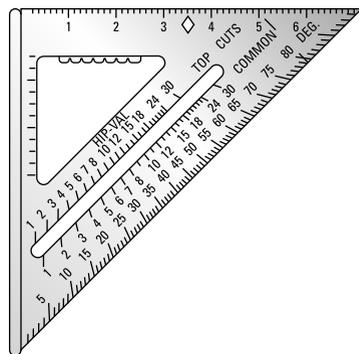

Figure 3-12:
- ✔ **Speed square:** Despite its seemingly-obvious name, a *speed square* (see Figure 3-12) is actually a *triangular* piece of metal or high-impact plastic. This deceptively simple-looking tool performs dozens of complicated carpentry functions, but it's most often used to lay out either a 90- or 45-degree angle. Its raised lip fits snugly against a board for easy scribing or even as a sturdy cutting guide for your circular saw. (We discuss circular saws earlier in this chapter.)